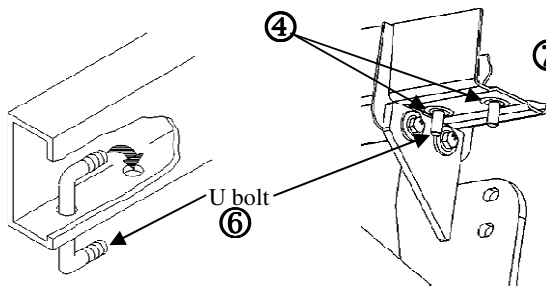
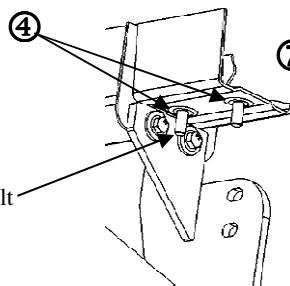

Figure 4
Figure 5
- Remove tow hook from driver's side frame rail by removing (4) M10 fasteners. Return tow hook and fasteners to vehicle owner.
- On passenger's side, remove (2) M8 hex bolts from bottom flange at end of frame rail (located just rearward of exhaust hanger bracket) as shown and discard.
- Install U bolt as shown in **figure 4** and slide conical washers over the bolt to act as a spacers. Tape them in place until the bracket is installed see **figure 5**.